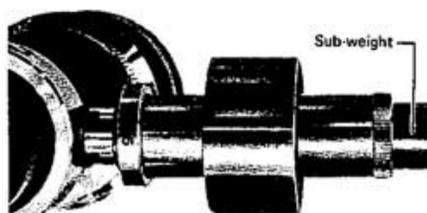

Fig. 8
4) No need to worry even if using an extremely heavy cartridge. In the case of a heavy cartridge, fit the sub-weight (supplied) onto the end of the weight shaft, by screwing clockwise. (See Fig. 8.)